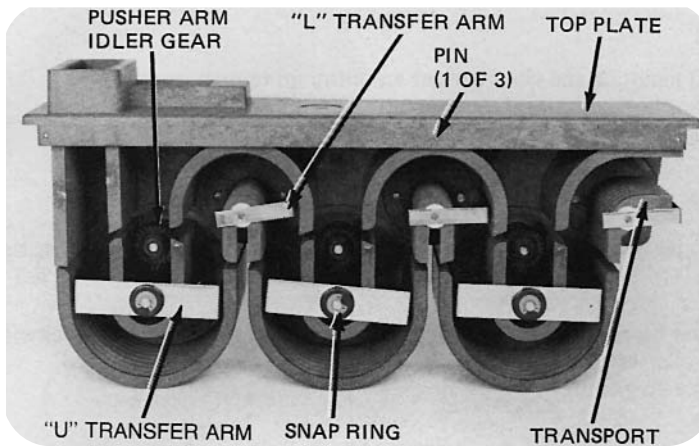
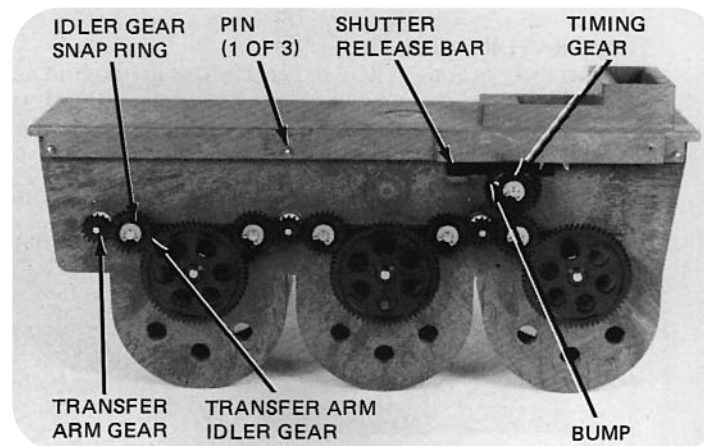

Figure 1.
Figure 2.
The position of the six driver arms, relative to the timing gear (Figure 2) on the rear of the transport is important for proper transport of film. Position your transport as shown in Figure 1. The three "U" shaped pusher arms and the three "L" shaped transfer arms are approximately horizontal. With the arms in this position, look at the timing gear (Figure 2). The bump is to the left at approximately 10 o'clock. This orientation should always be maintained: All six arms are horizontal when the bump on the timing gear is to the left at approximately 10 o'clock.
- 3) Position all arms in the horizontal position (Figure 1).
- A) The top plate is secured to the transport by three pins (Figures 1 & 2 and sketch above).
Reinsert top plate onto transport. Be sure to depress shutter release bar (Figure 2) when putting top plate on.